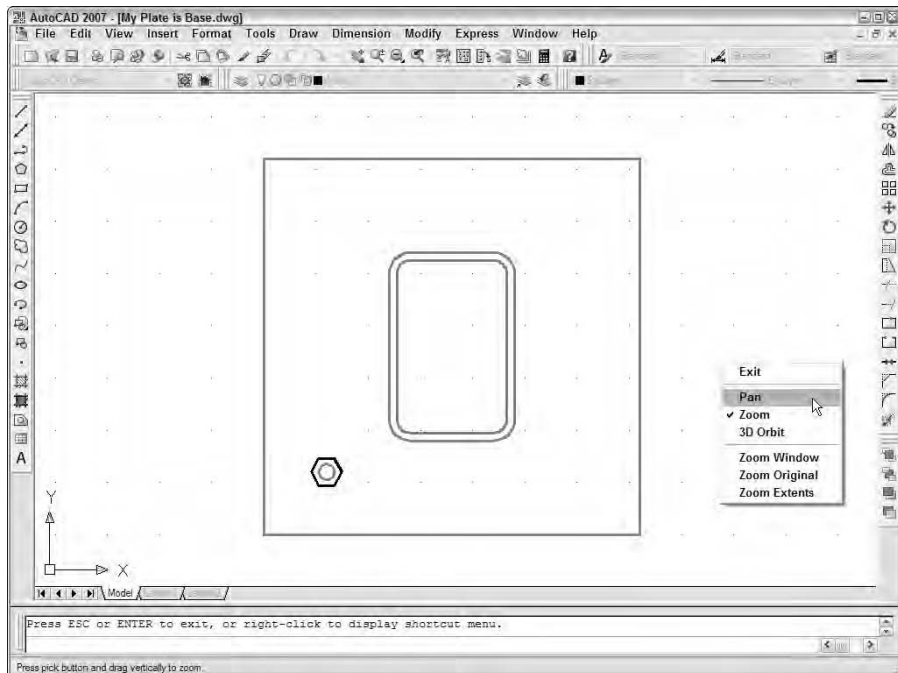

Figure 3-7:
3. Right-click in the drawing area to display the Zoom/Pan Realtime menu, shown in Figure 3-7, and choose Pan from the menu.